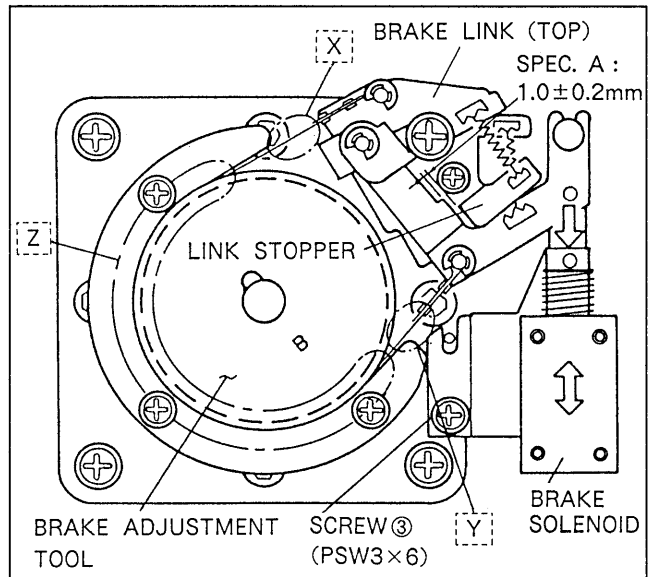

Fig. 6-6-4. Link Stopper/Brake Solenoid Position Adjustment
20. Secure the brake solenoid assembly loosely using screw ③.
22. Adjust the position of the link stopper so that the clearance between the link stopper and brake link (top) meet the specification A shown in Fig. 6-6-4 without the plunger of solenoid being absorbed.